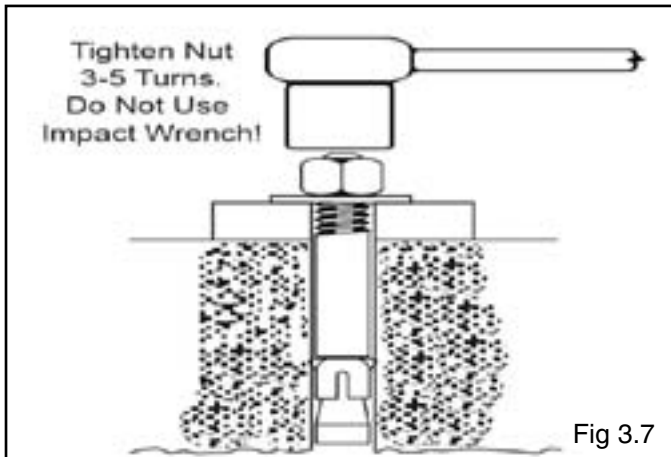

Fig 3.7
9. With the shims and anchor bolts in place, and the post determined to be level, tighten nut three to five turns past finger tight. DO NOT use an impact wrench for this procedure. (See Fig. 3.7)